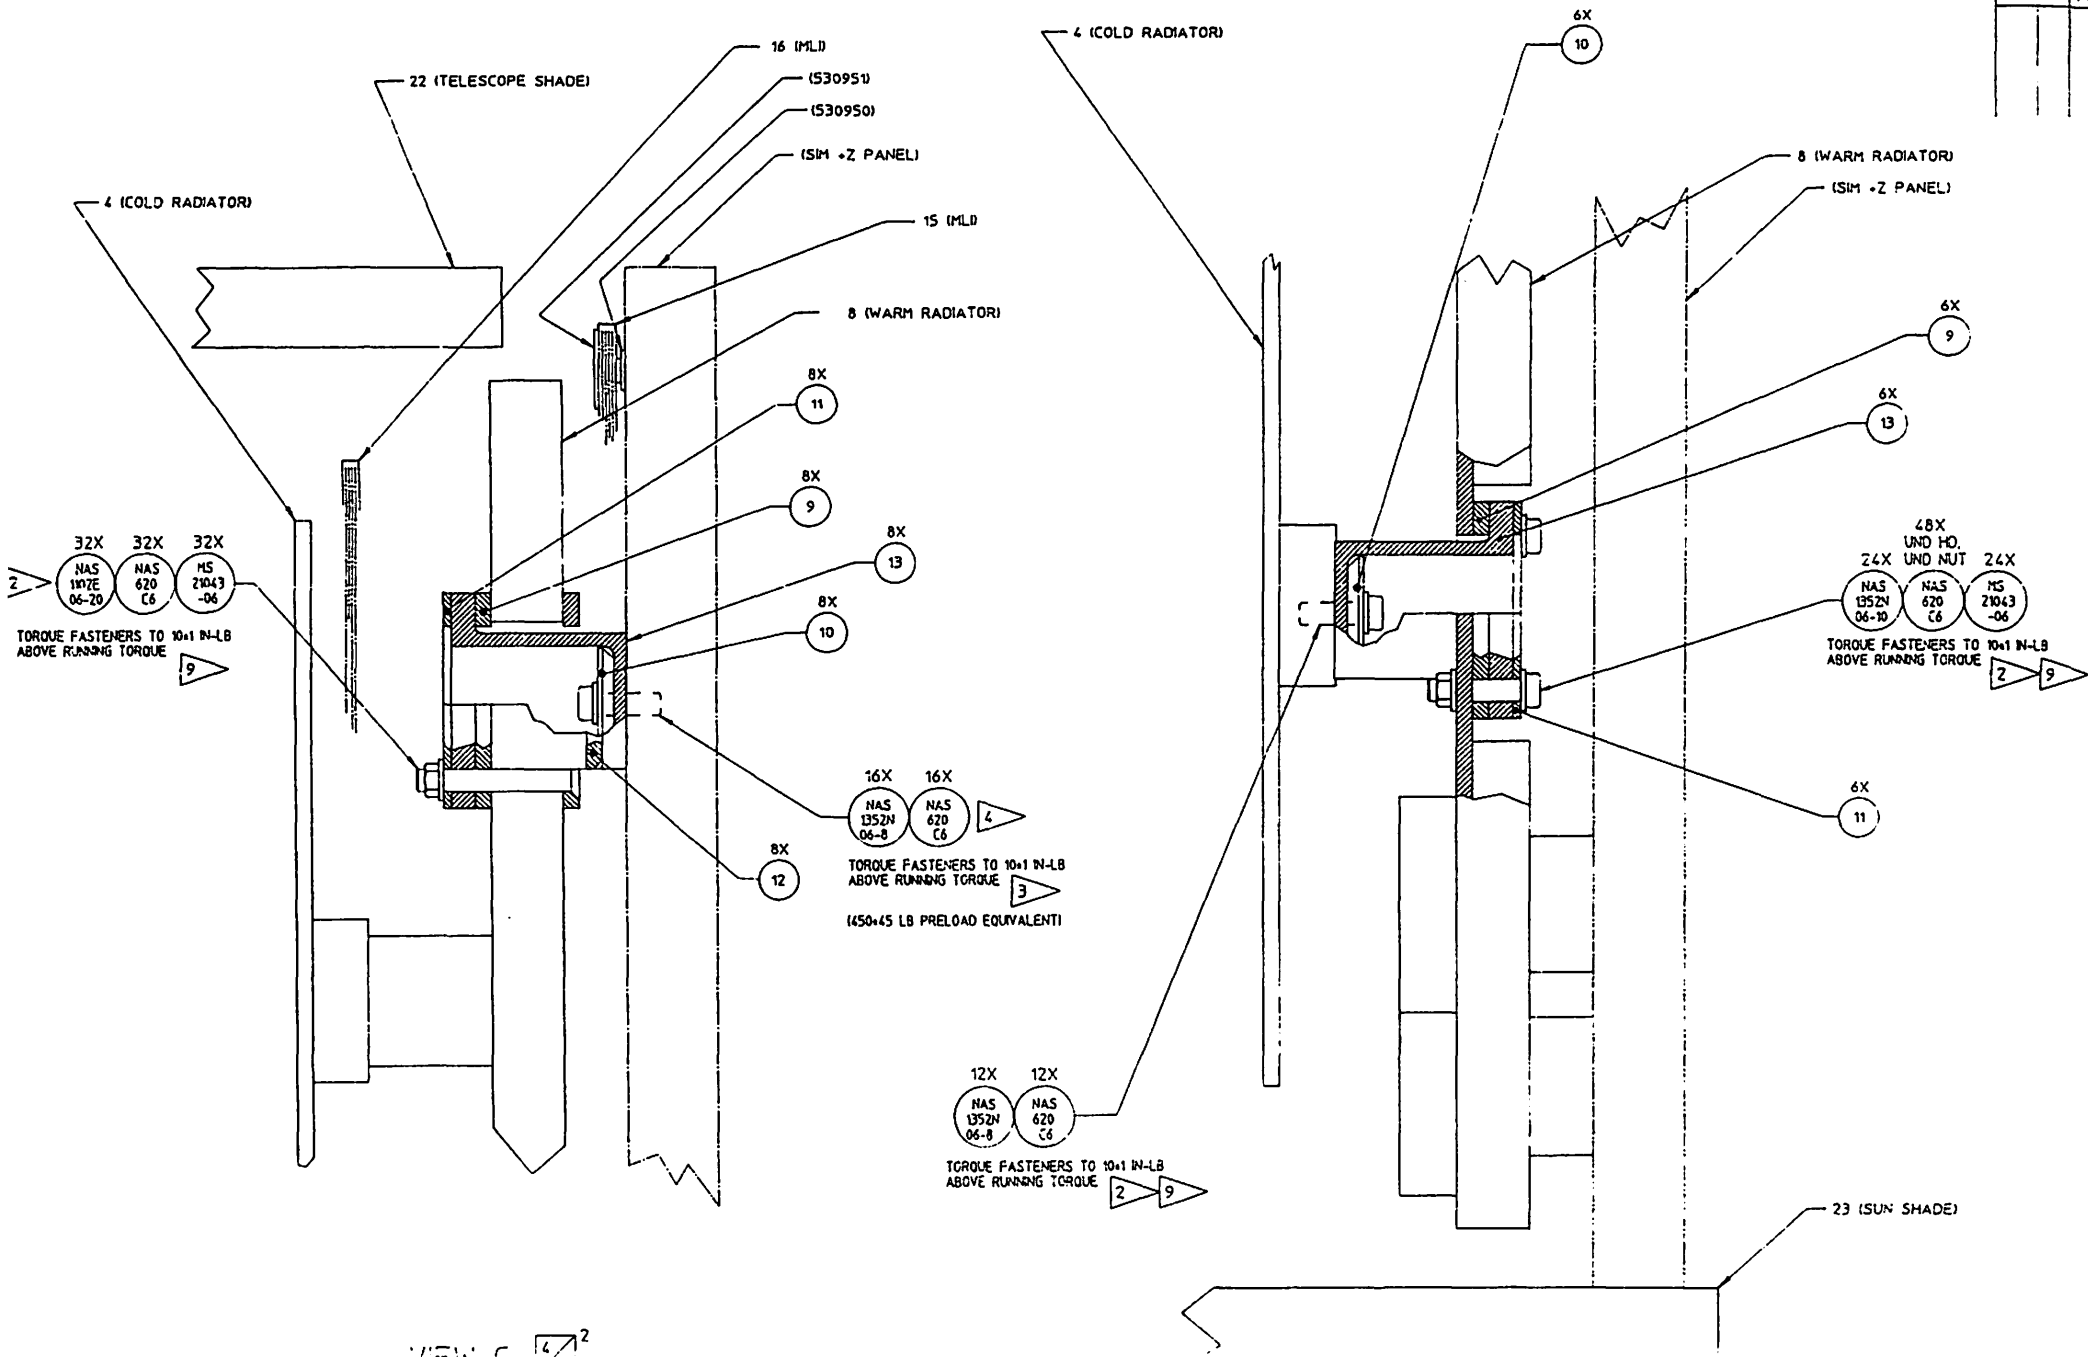

Fig. 5 Radiator Stand-Off Assembly
18. With the SIM +Z Panel laying flat, install the Warm Radiator and Cold Radiator per Fig. 5. Carefully bring radiator assembly up to +Z panel and align with #6 holes in radiator standoffs.
19. Install the washer and aluminum load spreader on #6 screw. Use #6 hex tool to hold screw/washer/ spreader as #6 screw is inserted through radiator standoff hole. Loosely snug up screw and repeat for second screw. Repeat step 24 on remaining 7 standoffs. Torque #6 Radiator Standoff hardware per the TCS Installation Drawing (849AC500003). See Fig. 5.